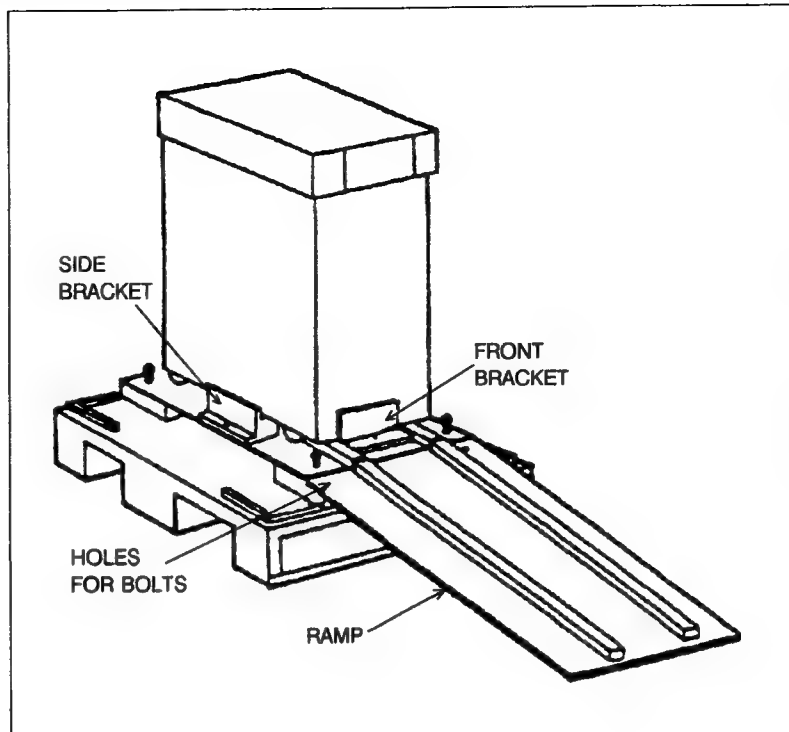

Figure 2-3. Positioning and Securing the Ramp
- c. Position the ramp as shown in Figure 2-3. Align the two holes at the top of the ramp with the two holes in the blocks on the pallet. Remove the bolts holding the side brackets and insert these bolts through the holes in the ramp to hold it in place.